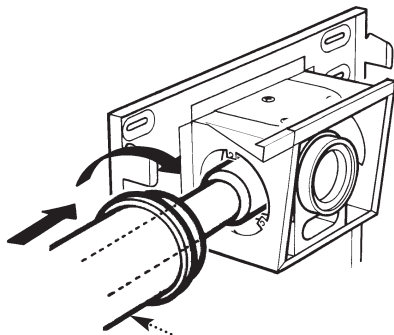

Fig. 64
4. Engage the bayonet slots of the air duct over the location lugs on the back plate opening and press and turn clockwise to secure the air duct to the back plate (Fig. 64).